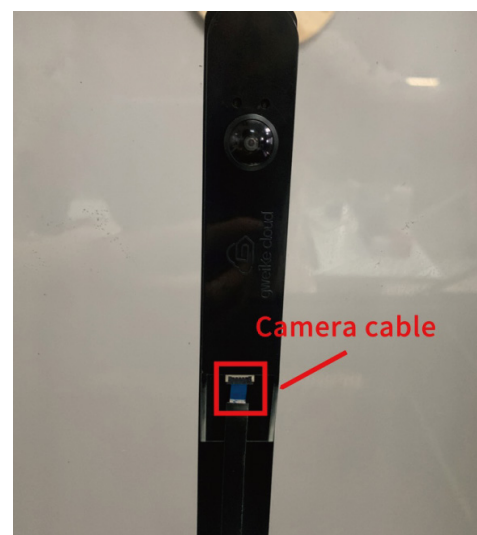

Figure 21
- ① The camera socket is loose, re-plug the camera (Figure 21)
- ② The camera cable is damaged, replace the camera cable.